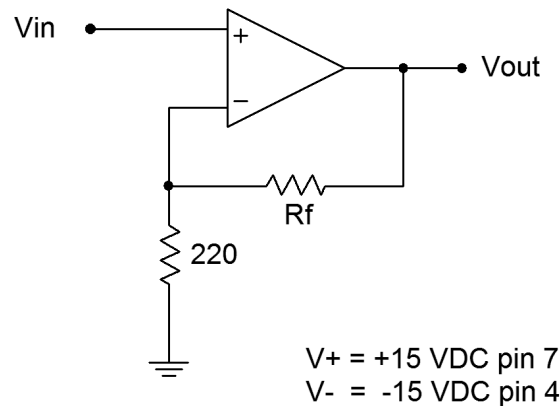

Figure 1
1. The upper break frequency, f_2 , of the amplifier in Figure 1 can be determined from its voltage gain and the f_{unity} of the op amp. Calculate the f_2 values for the amplifier of Figure 1 for the R_f values specified, and record them in Table 1.
2. Assemble the circuit of Figure 1 using the 4k7 Ω resistor.